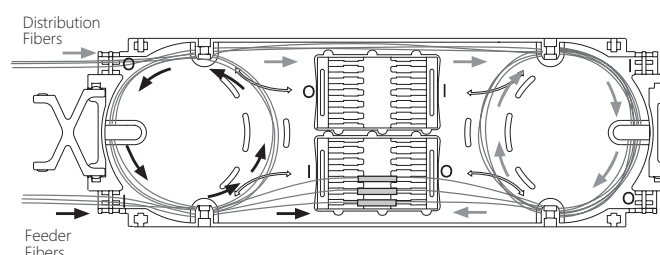

Figure 3
4.1.7. SM6: If splicing 12 fibers using SM6 splice modules, Route fibers 1-6 to one end of the tray, and route fibers 7-12 to the far end of the tray as shown in Figure 3.